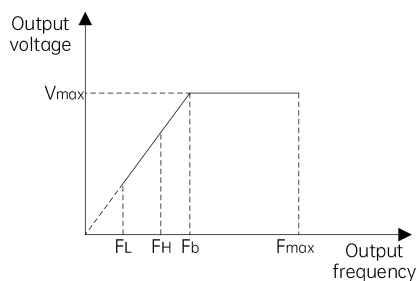

Fig. 7-6 Frequency limit parameter definition
The maximum output frequency is the highest frequency allowed by the drive, such as Fmax in Fig. 7-6;
The upper limit frequency is the highest frequency allowed in operation set by the user, such as FH in Fig. 7-6;
The lower limit frequency is the lowest frequency allowed in operation set by the user, such as FL in Fig. 7-6;
Fb in Fig. 7-6 is the basic operating frequency, defined as the minimum corresponding output frequency when the drive outputs the highest voltage in the V/F mode.
- (1) The maximum output frequency, upper limit frequency and lower limit frequency should be carefully set according to the actual nameplate parameters of the controlled motor and the needs of the operating conditions.
- (2) The limit range of the upper and lower frequency has no effect on the JOG operation, but it will affect the auto-tuning of the motor (parameter identification).
- (3) In addition to the upper limit frequency and lower limit frequency, the output frequency of the drive during operation is also limited by the startup frequency, start frequency of DC braking at stop, jump frequency and other parameters.
- (4) Fig. 7-6 shows the relationship between the maximum output frequency, upper limit frequency, and lower limit frequency. Note the value ranges during setting.
- (5) The upper and lower frequency limits are used to limit the actual output frequency to the motor. If the frequency reference is higher than the upper limit frequency, the device will run at the upper limit frequency; if the frequency reference is lower than the lower limit frequency, the device will run at the lower limit frequency; and if the frequency reference is lower than the startup frequency, the device will run at zero frequency.